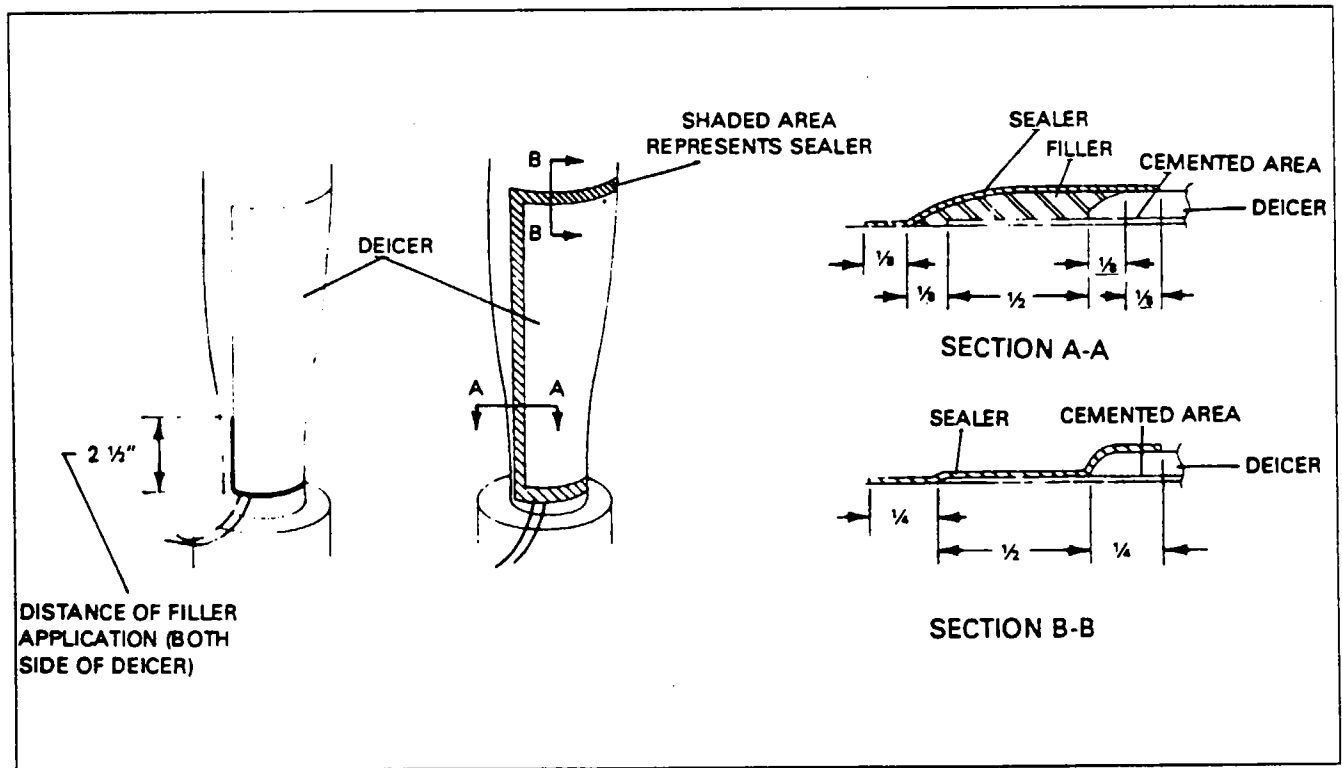

Figure 30-31. Typical Deicer Boot Sealer Application
7. Apply new masking tape approximately .125 inch beyond filler to allow application of sealer directly to the mounting surface. Apply one even brush coat of 82-076-1/2 sealer (or C-19861/C-16176 paint) over .125 inch of mounting surface filled area and .250 inch of deicer. (See Figure 30-31.)
8. Insure that sealer completely covers area between deicer and blade on propeller. (See Figure 30-31.) Sealer must also completely cover the area between the deicer and edge of recess on the outside of the engine air inlet lip. Immediately remove masking tape and allow sealer to dry for 24 hours before starting engine.